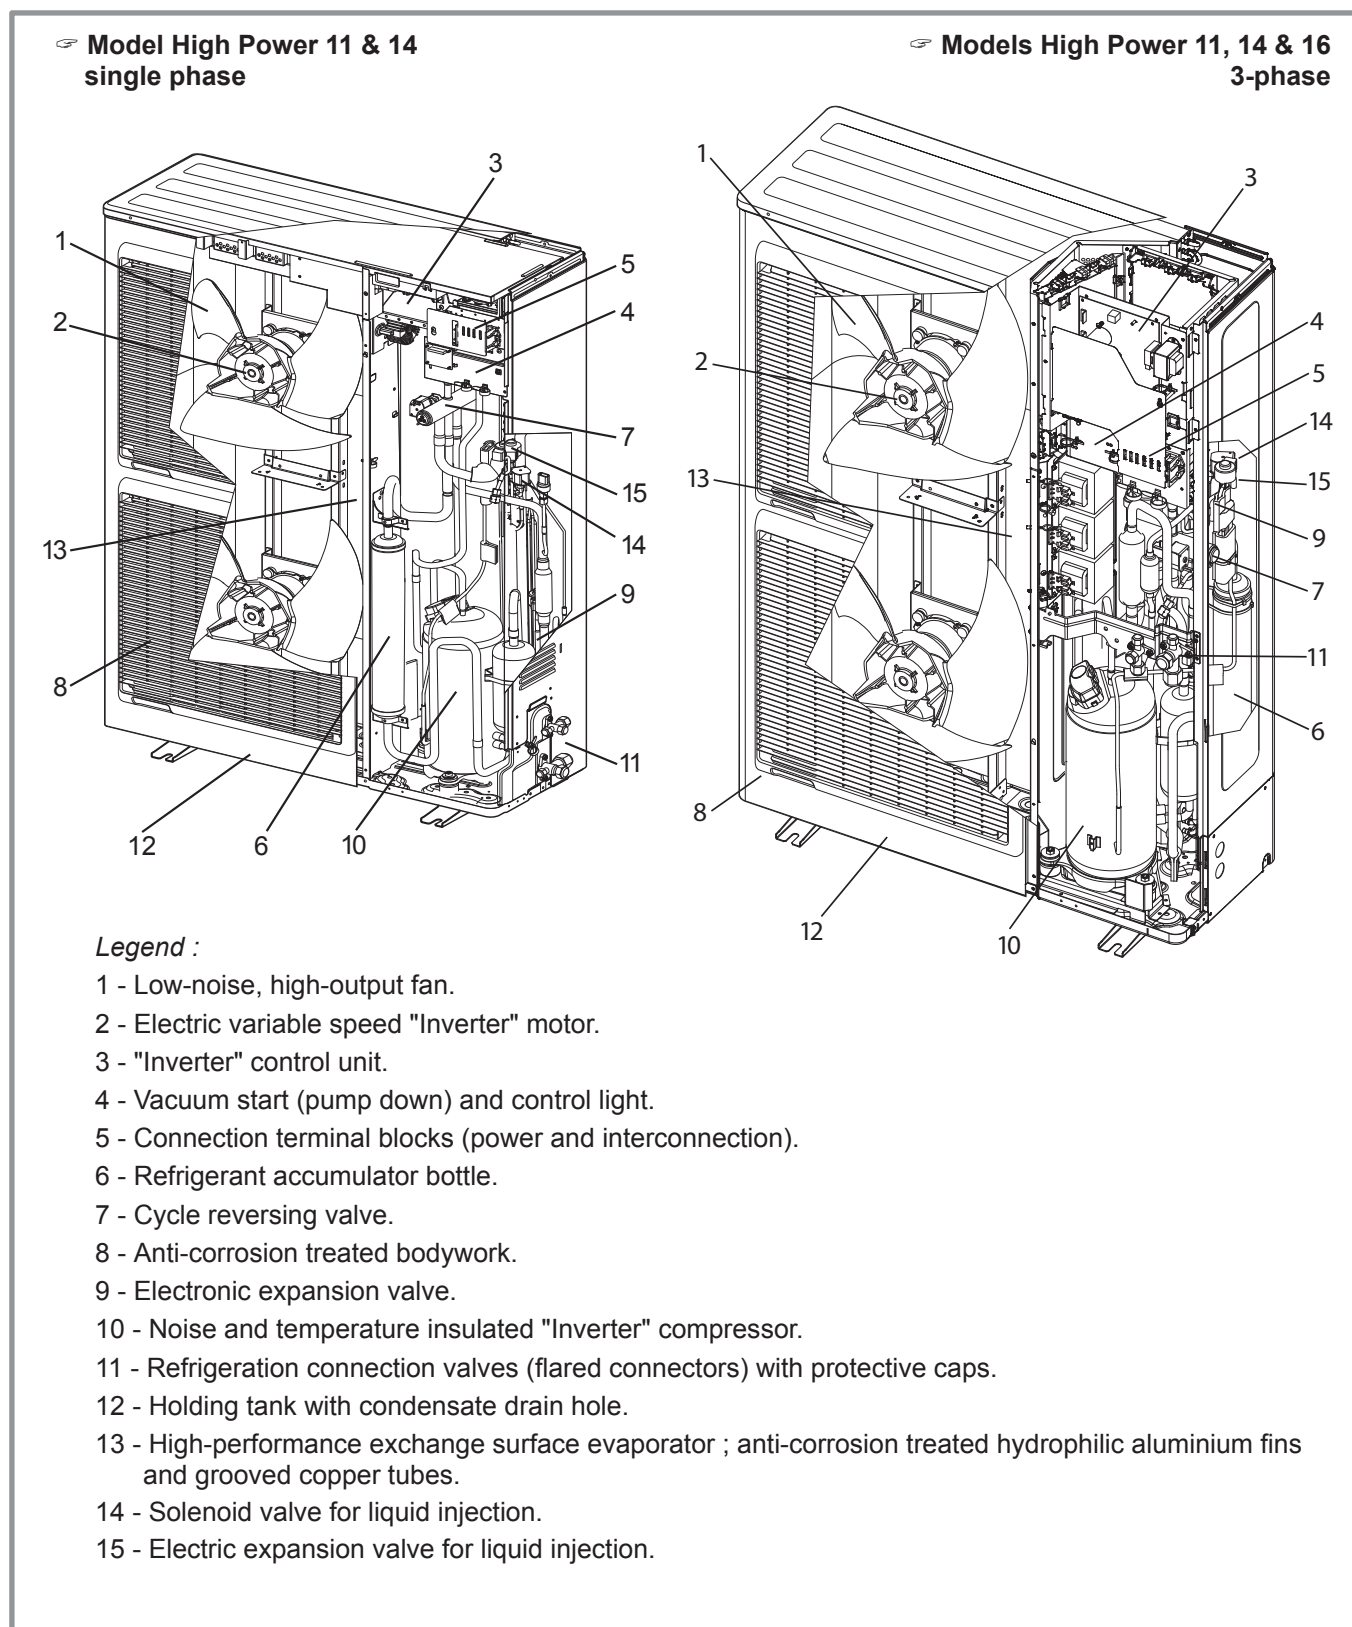

figure 7 - Outdoor unit components
- In the evaporator (ref. **13**, figure 7, page 9) :
- In the compressor (ref. **10**, figure 7, page 9) :
- In the expansion valve (ref. **9**, figure 7, page 9) :